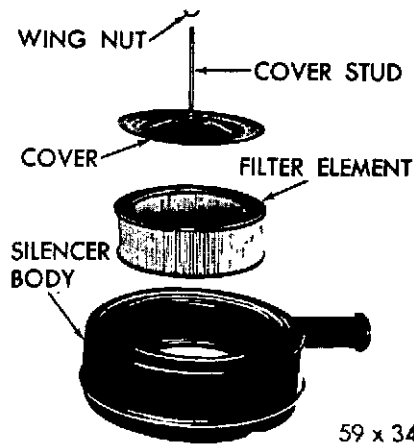

Figure 39 — Carburetor Air Cleaner (Paper Type)
Remove cleaner assembly, remove paper element, blow out dirt gently with an air hose. Direct air from inside out, and keep nozzle two (2) inches away from element to avoid damaging. Do not tap or immerse element in liquid. Wash the cleaner cover and body with cleaning solvent, such as kerosene and wipe dry (Figure 39). Replace paper element, center and secure firmly. Replace cleaner assembly on engine. Replace paper element every 500 hours.